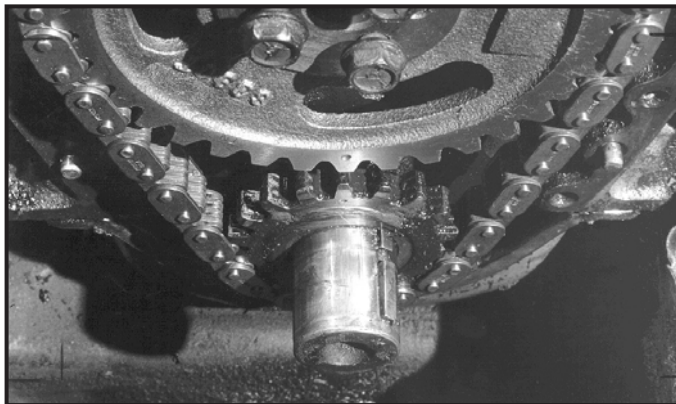

Figure 1
1. Disconnect the battery, drain the cooling system, and remove the radiator. Remove all accessories necessary to make the cam, lifters, and timing chain accessible. Rotate the crankshaft slowly until the timing marks are aligned as shown in Figure 1.